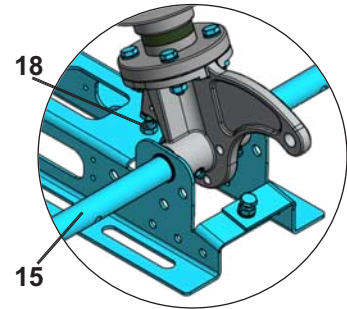

Fig. 11: Limited stop "ON"
- Ensure that the limited end stops (18) for ON / OFF reach their exact end position (Fig. 11 and 12).